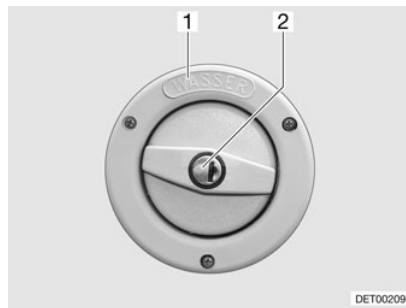

Fig. 82 Cap for the fresh water filler neck
The fresh water filler neck is labelled with the word "WASSER" (water) (Fig. 82,1). The cap is opened or closed using the key for the external flap locks.
- Insert key into locking cylinder (Fig. 82,2) and turn a quarter turn in an anti-clockwise direction.
- Open the fresh water filler neck (Fig. 82).